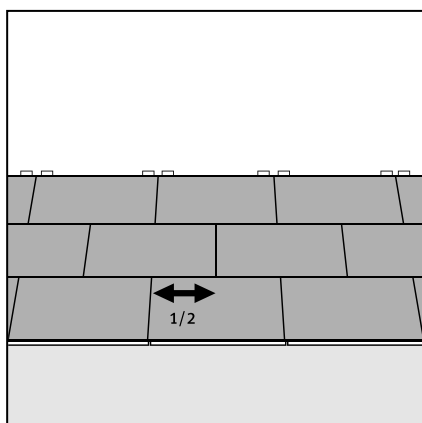

Figure 16 Stagger the short joints
- ▶ Insert the upper male profile of the long side of the panel into the corresponding lower profile of the long edge of the panel in the previous row, at a slight angle. Press down until it locks into place. Always try to stagger the short joints approx. 150mm from the nearest short joint in the previous row (Fig 16).